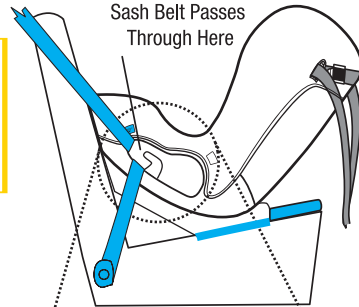

Figure 4
Step 6: Ensure the adult lap or lap sash belt is captured by the hooks (refer Figure 4 and 5.)